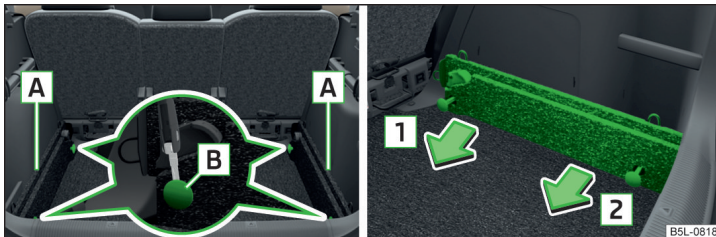

Fig. 120 Slacken check points/remove carrier rails
- Undo the securing points **B** » Fig. 120 on the carrier rails using the vehicle key or a flat screwdriver.
- Press the two securing points **B** » Fig. 120 on each carrier rail to the stop.